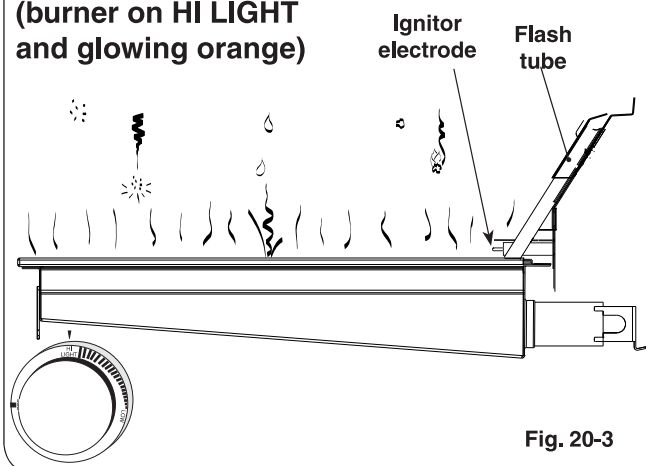

Fig. 20-3
- DO NOT place food on the cooking grid until the IR burner glows orange (Fig. 20-3). Drippings are heated and evaporate instead of sticking to and impairing burner function.